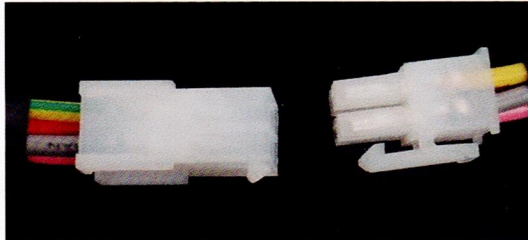

Figure. 3.5 (motor wire)
⑤ Connect the 4-core motor connection wire on the controller with the one on the extension tube, buckle the plastic plug (see Figure 3.5)
② Connect the 4-core motor connection wire on the motor with the one on the extension tube, buckle the plastic plug (see Figure 3.5)